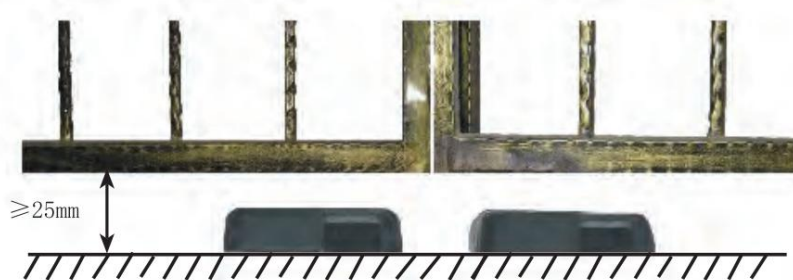

Fig.4
1. Check the flexibility of the gate during opening and closing, make sure that the gate does not bounce back when the gate reaches the open or close limit position. When the gate is in the close position, the bottom edge of the gate frame shall be at least 25mm above the ground (slightly higher than the stop iron, as shown in fig.4) . Make special adjustments if the gap is less than 25mm.